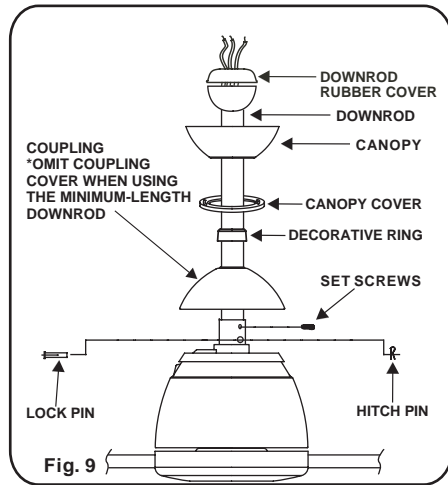

Fig. 9
Step 5. Slip coupling cover, decorative ring, canopy cover and canopy onto downrod. (Fig. 9) Carefully reinstall hanger ball onto rod being sure that cross pin is in the correct position, set screws are tighten and wires are not twisted.
Step 6. Place downrod rubber cover onto the hanger ball. (Fig. 9)